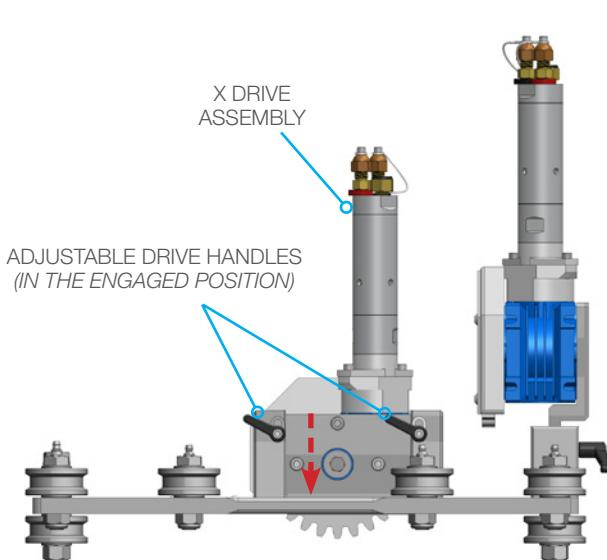

FIGURE 10
1. Rotate the Adjustable Drive Handles counter-clockwise to disengage the X Drive Assembly on the Carriage. This allows the Carriage to freewheel onto the X Rail. (**Figures 10 & 10.1**)